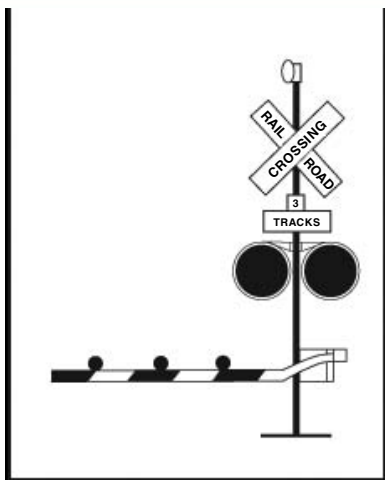

Figure 10.8
crossings, the crossbuck sign has flashing red lights and bells. When the lights begin to flash, stop! A train is approaching. You are required to yield the right-of-way to the train. If there is more than one track, make sure all tracks are clear before crossing. See Figure 10.8.
**Gates.** Many railroad-highway crossings have gates with flashing red lights and bells. Stop when the lights begin to flash and before the gate lowers across the road lane. Remain stopped until the gates go up and the lights have stopped flashing. Proceed when it is safe. If the gate stays down after the train passes, do not drive around the gate. Instead, call your dispatcher. See Figure 10.8.